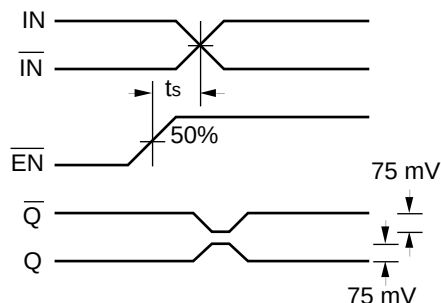

Figure 1. Set-up Time
- The set-up time is the minimum time that $\overline{EN}$ must be asserted prior to the next transition of IN/ $\overline{IN}$ to prevent an output response greater than $\pm 75\text{mV}$ to that IN/ $\overline{IN}$ transition (see Figure 1).